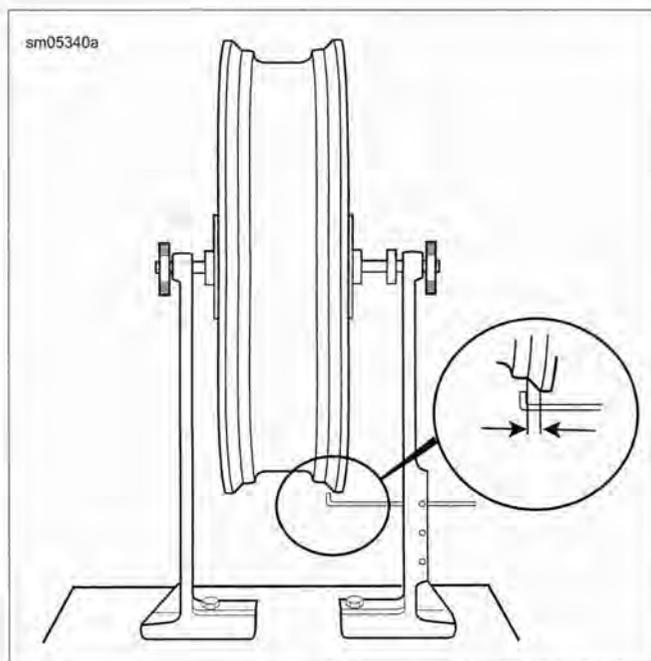

Figure 2-29. Lateral Runout
1. See Figure 2-29. Point the gauge rod or indicator at the rim bead flange.